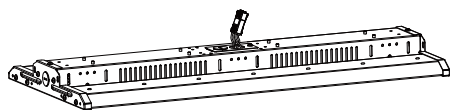
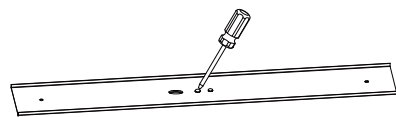

Figure19
Figure20
Step1. Knock off the knockout hole on the back of the fixture, take out the wires from the knockout hole (Figure 19), open the front cover of the fixture, and knock out the two knockout holes on the cover (Figure 20); Step2. Open the cover of the backup driver box, install the backup driver box at the corresponding position on the back of the fixture (Figure 21), connect the wires correspondingly according to the marking instructions on the wire, mount the buttons and indicators of backup driver on the front cover of the fixture (Figure 22), then fix the cover to the fixture.